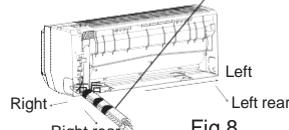

Fig.8
- Take out the piping from body case, wrap the piping, power cords, drain hose with the tape and then make them pass through the piping hole. (As shown in Fig.8)